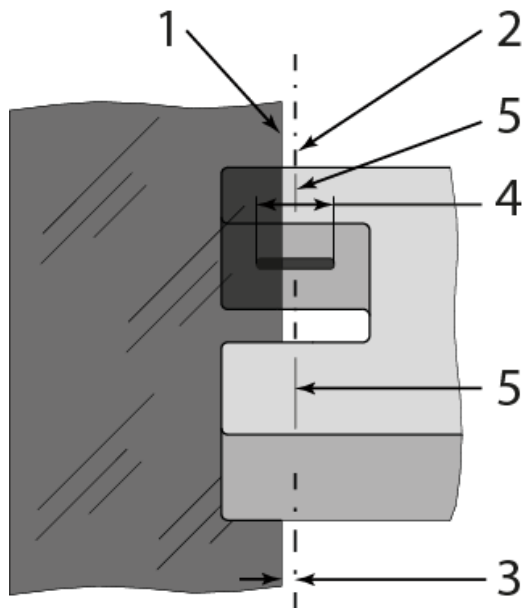

Fig. 4: Position of the sensors according to the web
6. The sensor will be properly positioned if the web edge runs through the sensor axis covering half of the transmitter or receiver (ref. to **Fig. 4**).